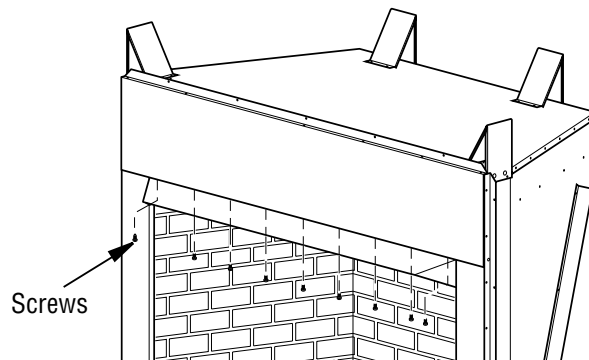

Figure 14 - Screw and Hood Placement
1. Attach hood to firebox using screws provided (*see Figure 14*).